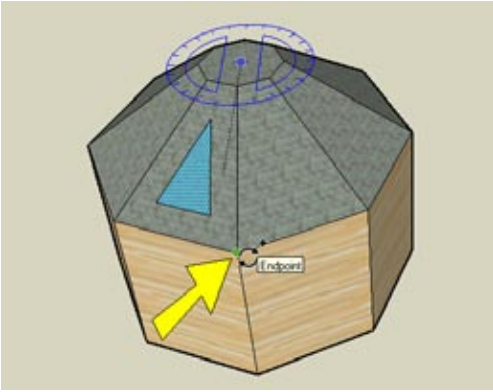

Figure 1-44
- The next two clicks define the rotation angle. The first click defines the angle's baseline, and the second click defines the rotation angle relative to the baseline. Press Ctrl/Option to make a copy (look for the + sign on the cursor), and click any corner of any octagon (top, middle, or bottom of the building), as shown in Figure 1-44.